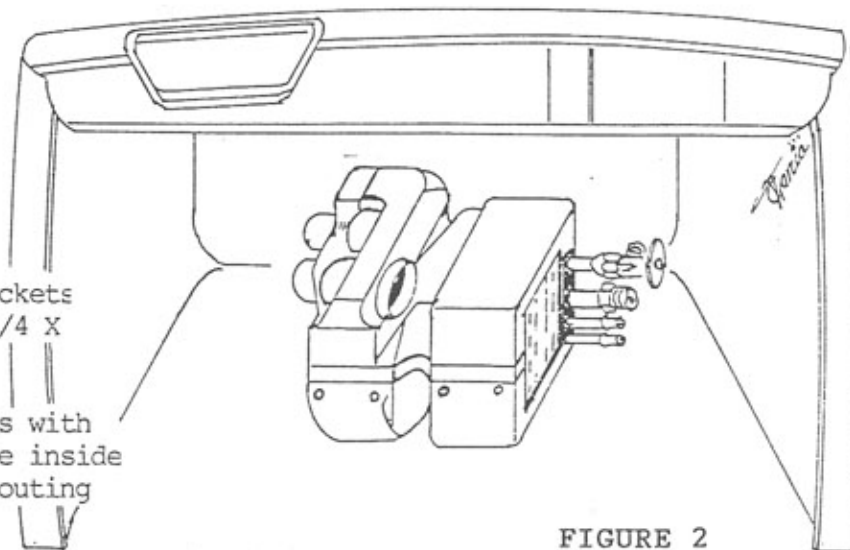

FIGURE 2
3. Brackets are furnished to mount the evaporator case. (Attach to firewall as shown in figure 2).
5. Have a helper hold the unit up as high as possible, locate the bracket on the top right side of the blower housing. Drill thru the 1/4" hole in the bracket to mark the firewall. Check to see if the location you marked looks correct and will clear obstructions on both sides of the firewall. If so, drill 1/4" hole in the firewall. Attach the evaporator to the firewall by the blower motor bracket with a 1/4" X 20 X 1/2" bolt and nut. Using the rear evaporator bracket as a guide mark and drill thru the 1/4" hole in the bracket. Attach this bracket to the firewall with a 1/4" X 20 X 1/2" bolt. This will locate the evaporator horizontally. Now secure the front evaporator support strap to the unit with the 1/4" X 20 X 1/2" bolt furnished. This support bracket will attach to the dash mount header. With the unit held in place and level mark thru the 1/4" hole at the top of the bracket. Make sure that the spot marked will provide a good mounting location for this bracket, drill 1/4" hole. Secure the mount strap to the cowl header as shown in figure 2 with a 1/4" bolt.